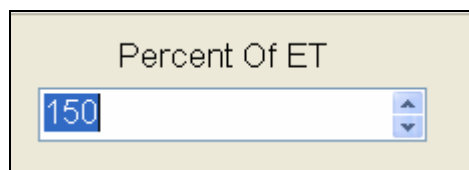

Figure 16.1.15B
10. Adjust the **Percent of ET** using the **UP** and **DOWN** arrows to the right of the **Percent ET** box (Figure 16.1.15B).